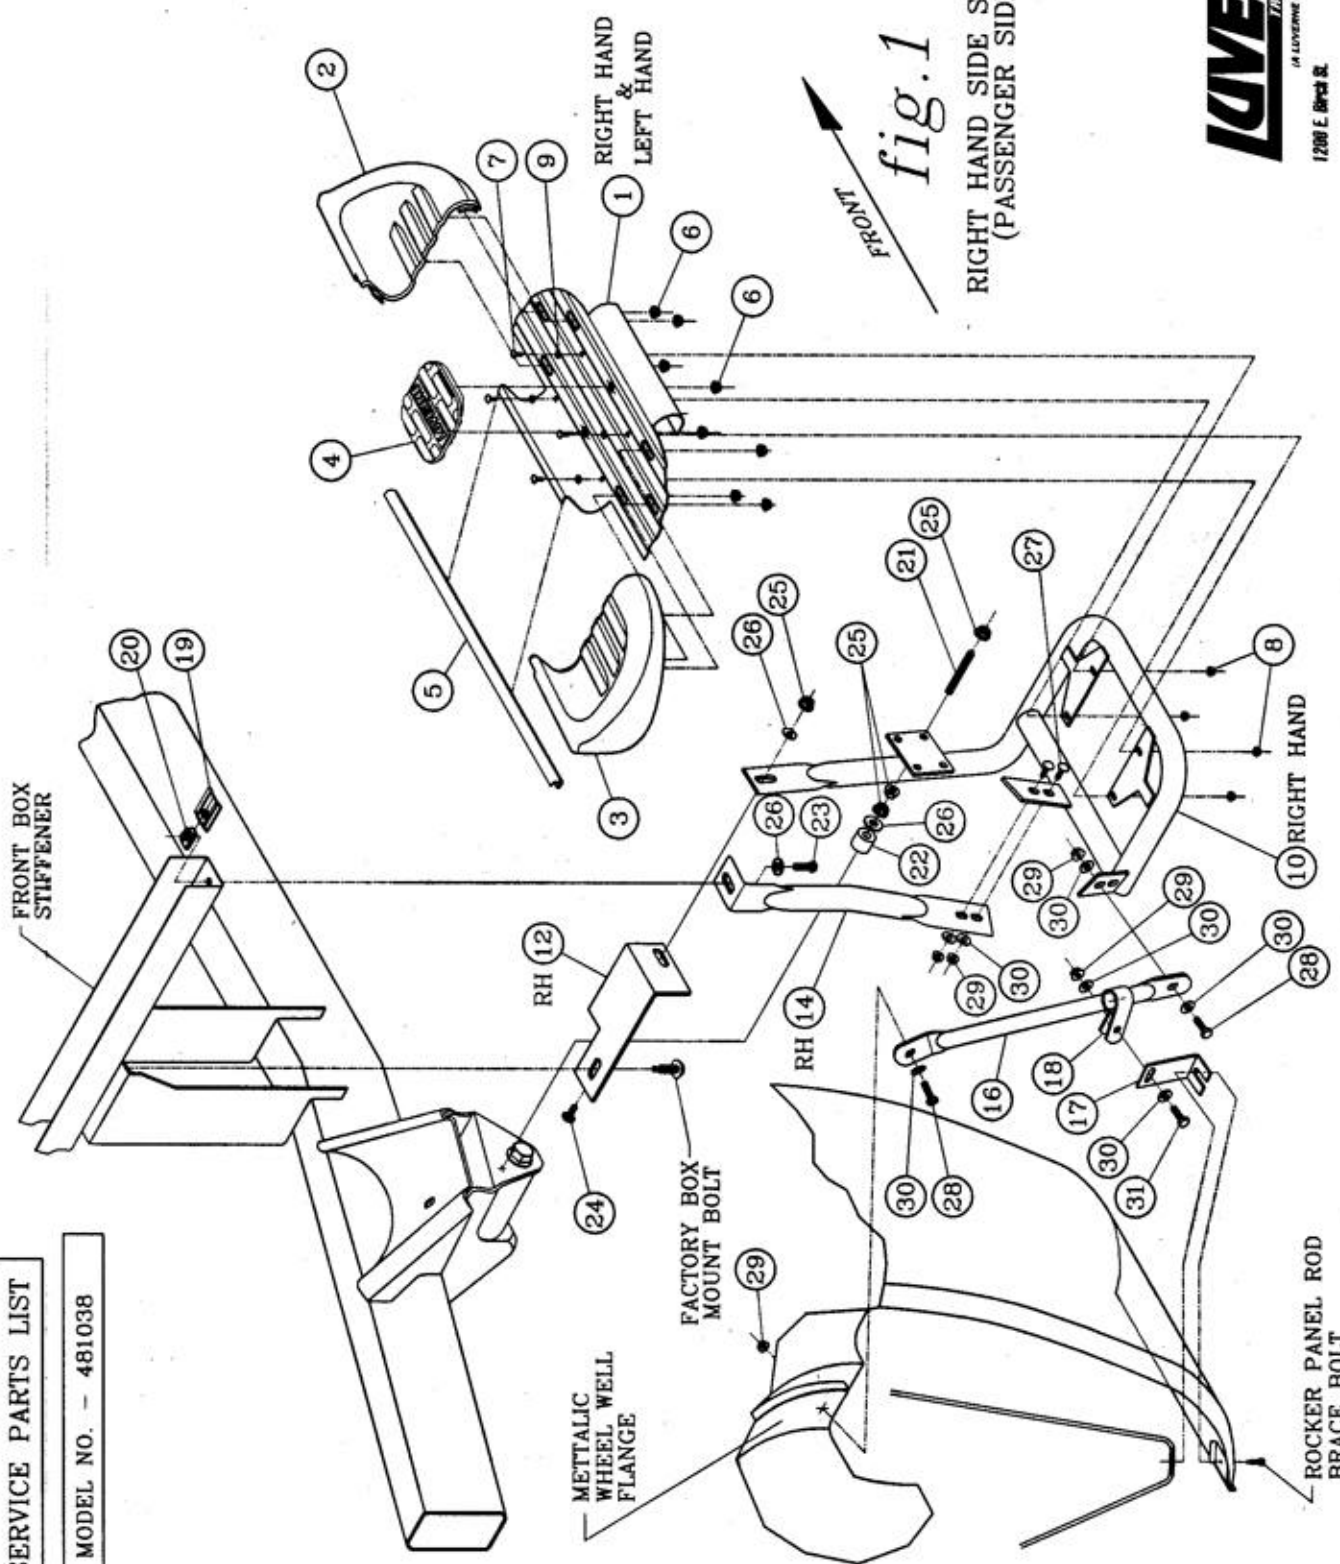

fig.1
- 2.2. REMOVE THE BOX HOLD DOWN BOLTS (18mm WRENCH) FROM THE FRONT BOX STIFFENER AND ATTACH THE UPPER BOX MOUNT BRACKET (ITEM #12) AS SHOWN IN FIG 1.